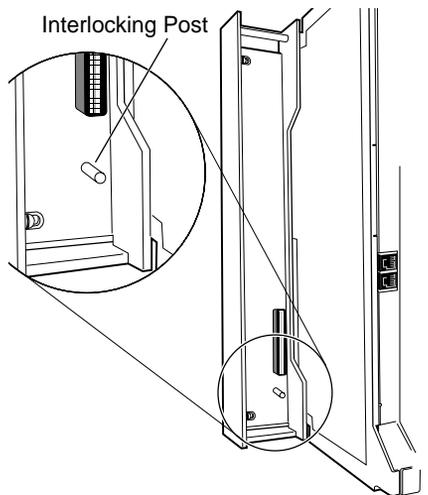

Figure 4-1. Power Supply Interlocking Post
- ▶ 2. Check the small, cylindrical interlocking post on the carrier that locks into the power supply (see Figure 4-1).